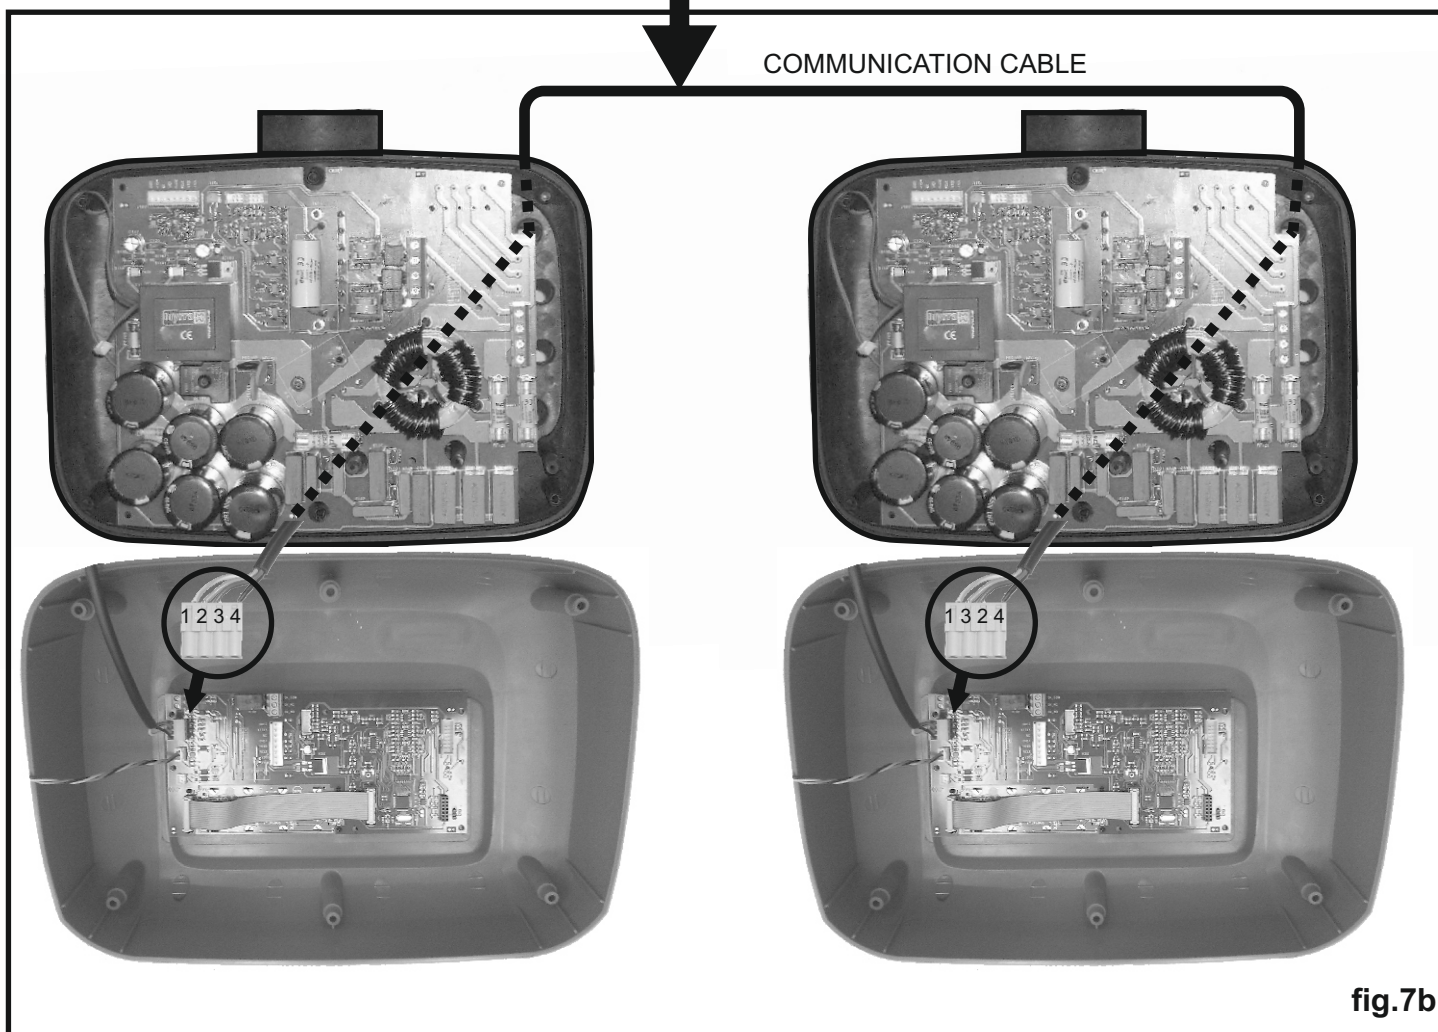

fig.7b
1. unscrew the cover ❶ and loosen the PG gland located on its base ❷.
4. Carry out the connection as indicated in fig.7b.